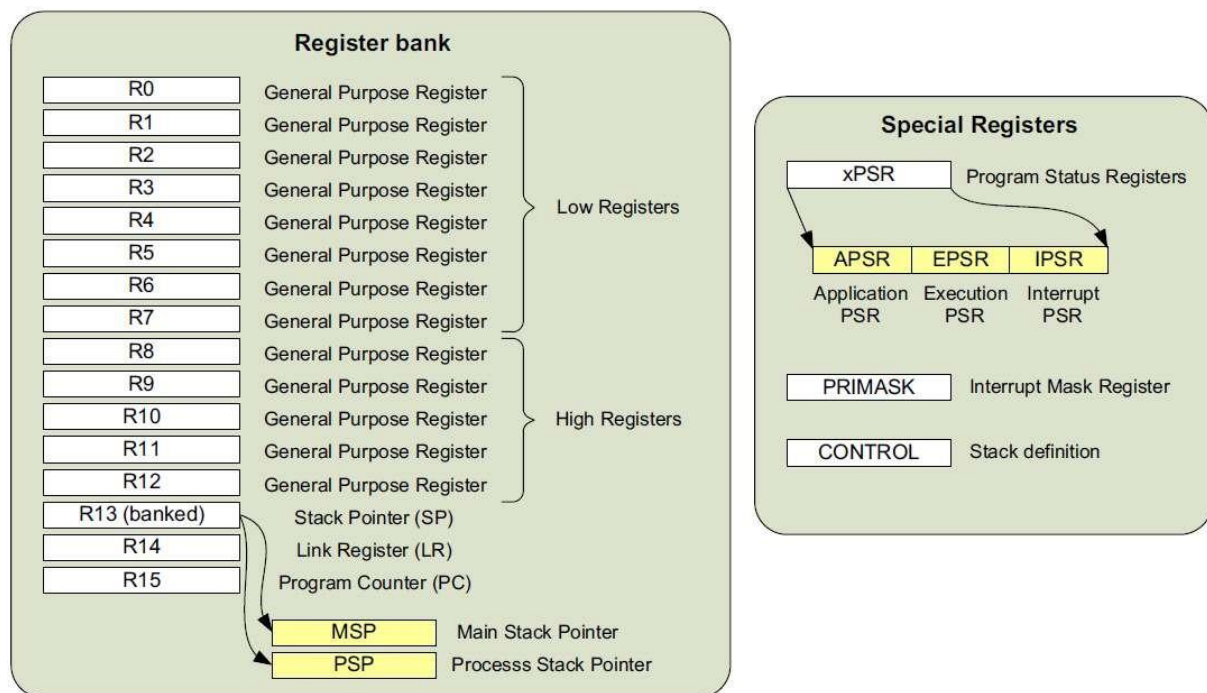

Figure 6: Registers in the Cortex-M0 processor
- ii. By having a sufficient number of registers in the register bank, this mechanism is easy to use. The register bank contains sixteen 32-bit registers. 13 are general-purpose registers, remaining have special uses as shown in the Figure 6.